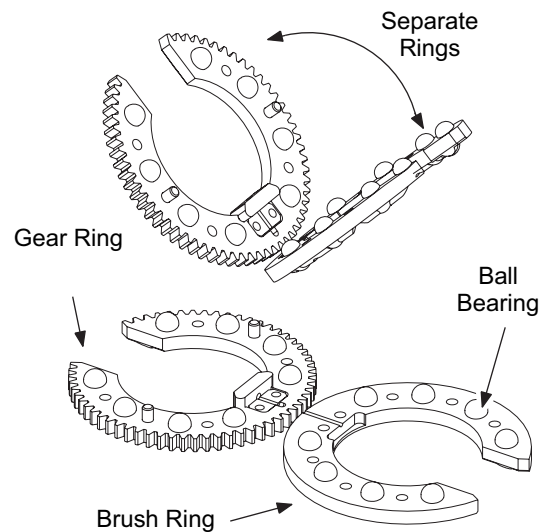

Figure 40 *Separating the Gear Ring from the Brush Ring*
3. Completely separate the gear ring from the brush ring as shown in Figure 40. Lay the rings flat on the work surface.